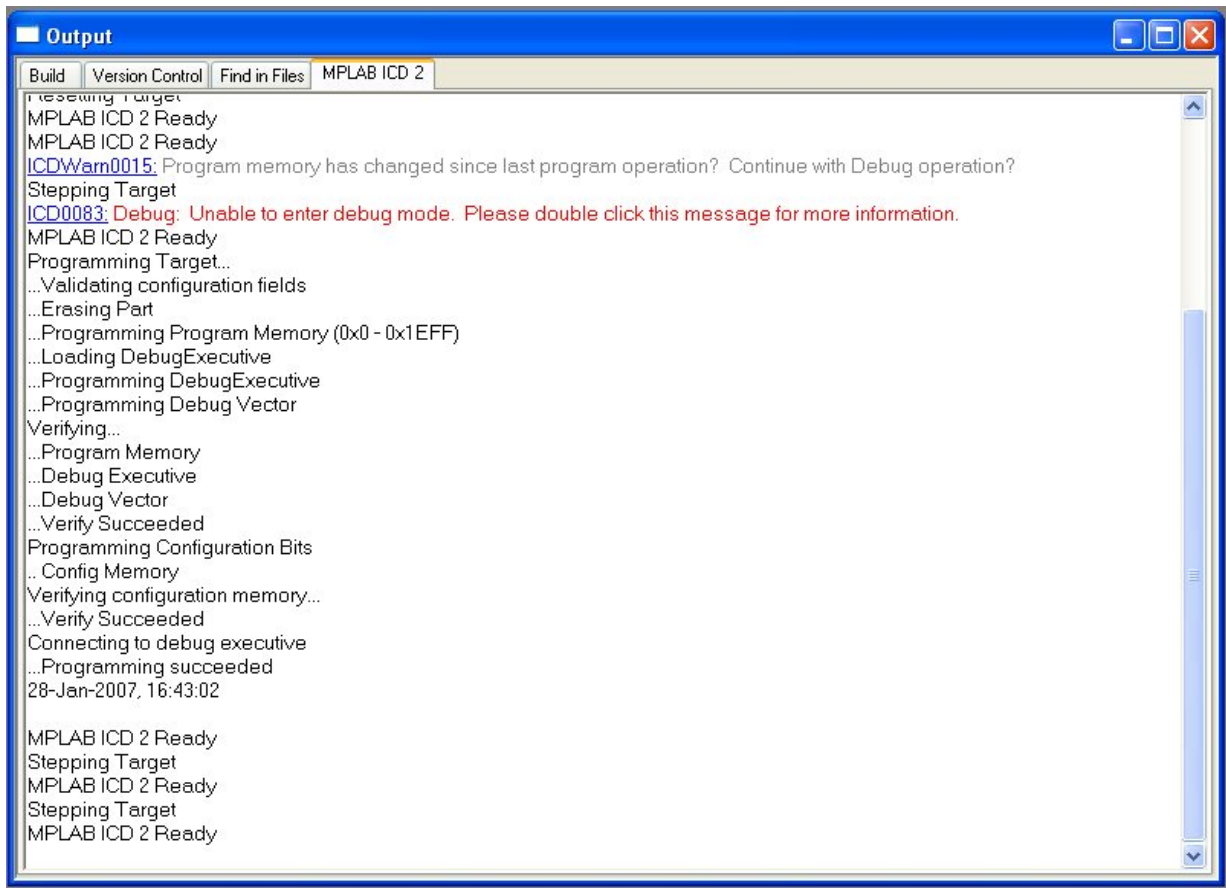

Figure 19: MPLAB ICD2 program loading for entering debug mode
- If the program code is not loaded, you would get error message like the one seen here, ICD0083 (Fig. 19)